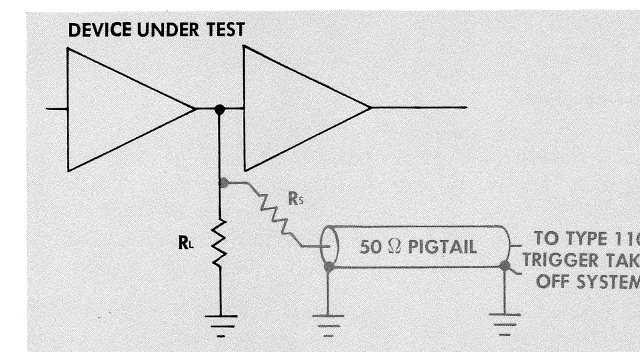

Fig. 3-3. Shunt method of tapping off signal for application to the Type 110 Trigger Takeoff System.
2. In the shunt method, shown in Fig. 3-3, R_S must be selected large enough to have negligible loading effect on the circuitry. In some cases it may be desirable to increase R_L by an amount large enough to overcome this loading effect.